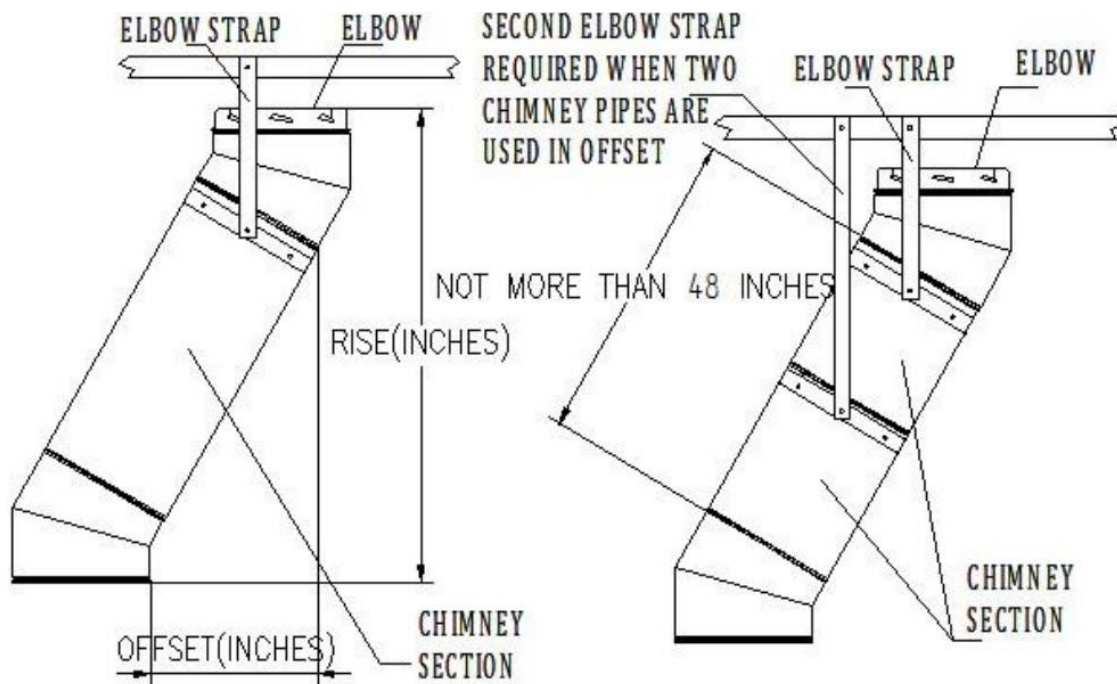

Fig 12
Chimney Section below, and align it for the offset. Refer to **Table 2** to determine the required offset length and attach an appropriate length (or lengths) of Chimney Section(s) above the Elbow. Note: maximum of two chimney sections can be connected between Elbows. The maximum length of chimney pipe between elbows is not to exceed 72". Attach the second Elbow above the Chimney Section to complete the offset (Fig 12).
2. **Secure Offset:** Place the Elbow Strap's band around the angled portion of the top Elbow, then tighten the nut and bolt until the clamp is firm. Wrap the Elbow Strap end over an adjacent joist or rafter and secure it with at least (2) 8-penny nails or (2) #8, 1-½" screws. Do not add more Chimney Sections until the Elbows are supported. Be sure that the chimney remains vertical. If there is more than one Chimney Section between the Elbows, install a second Elbow Strap around the joint of the two Chimney Sections (Fig 12).